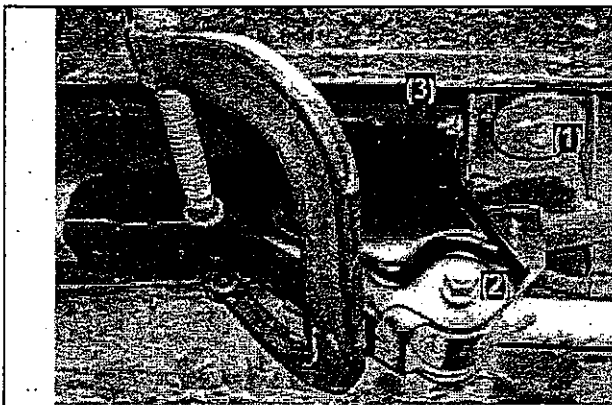

Figure 15: Driver side temporary installation (1998-2000 models)
1. Remove the Rear Trailing Link Front Mount mounting nut from both driver and passenger side. See Figure 15.
2. Remove lower half of body mount # 4 from both driver and passenger side. See Figures 15 and 16.
6. Temporarily install both Type "A" reinforcement brackets using the original lower link mounting nut, "C" clamp and new stud and nut. See Figures 15 and 16